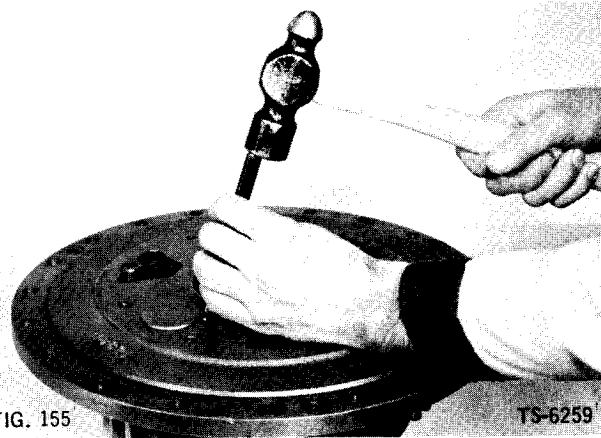

FIG. 155
4. Stake pinion shaft ball groove in two places to retain shaft (Fig. 155).